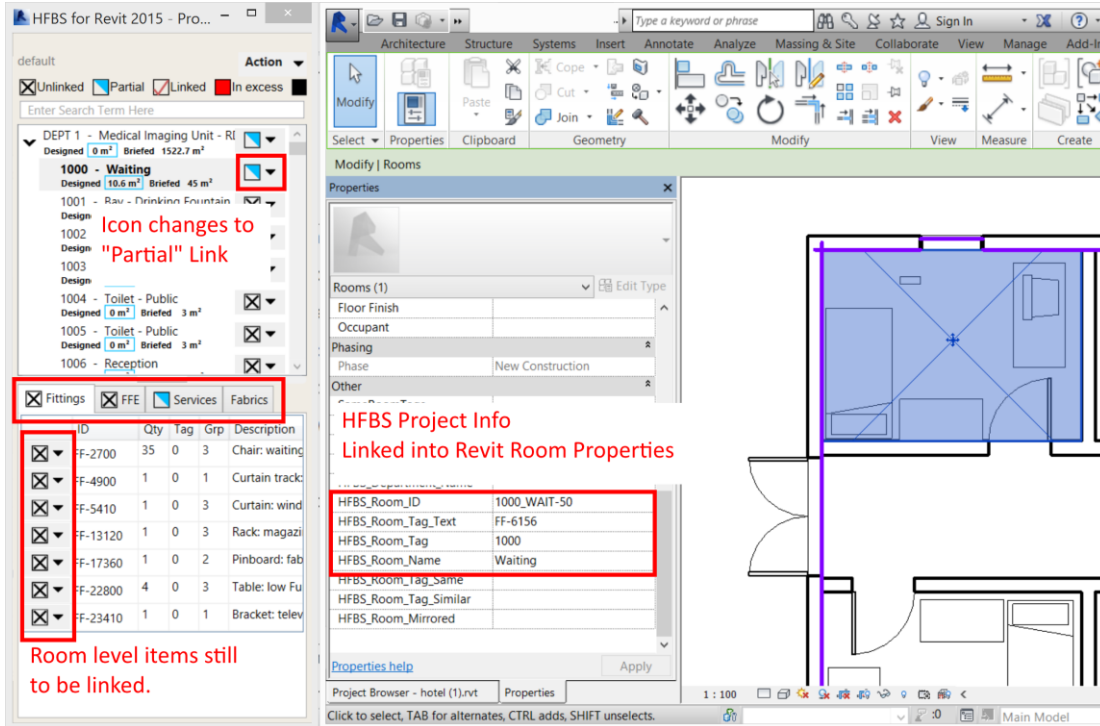

Figure 13 Project Manager window - Linking a HFBS room with the HFBS room icon and the Revit room shared parameters updated.
- The icon to the right of the HFBS room will then appear as a *Partial* link (see Figure 13), this is because the room contains *FF* (furniture fittings), *FFE* (furniture, fixtures & equipment), *Services* and *Fabrics* room items that need to be linked.
On completion of this operation, the Revit room will have populated HFBS shared parameters (such as *HFBS_Room_ID*, *HFBS_Room_Tag_Text*, *HFBS_Room_Tag*, *HFBS_Room_Name*, *HFBS_Room_Tag_Same*, *HFBS_Room_Tag_Similar* and *HFBS_Room_Mirrored*) (see Figure 13).